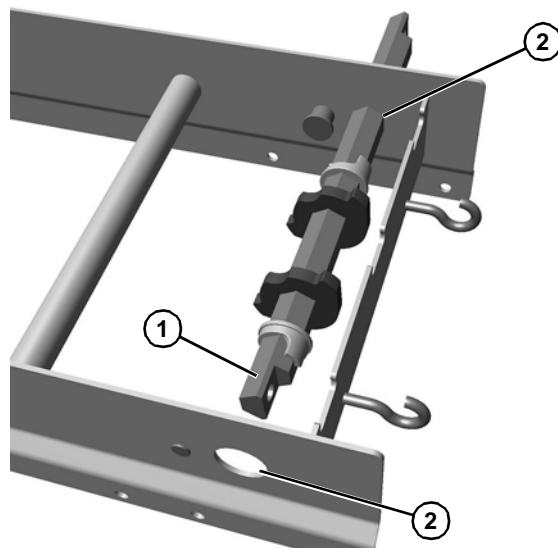

Figure 12
2. Place hex shaft assembly (Figure 12, item 1) through the conveyor frame tip up holes (Figure 12, item 2) and center with conveyor.